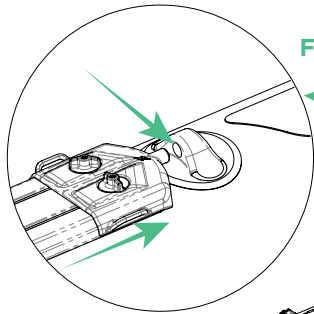

Figure 8
- Install the end pin on the TRACK-MOUNT END CAPS into the hole on the rail mounts. (Figure 8)